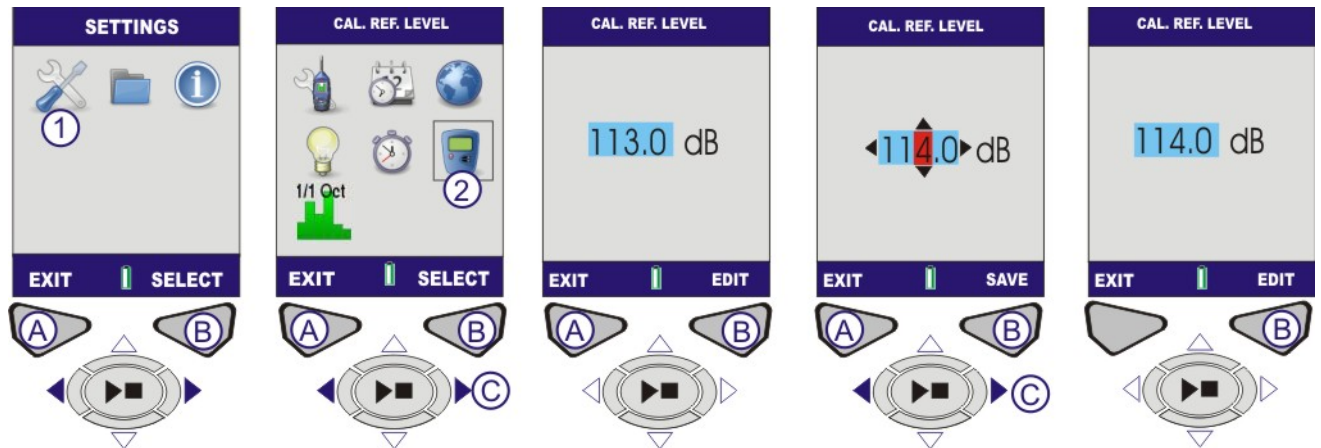

Figure 9 Calibration Reference Level
**G. CAL. REF. LEVEL (Refer to Figure 9)**